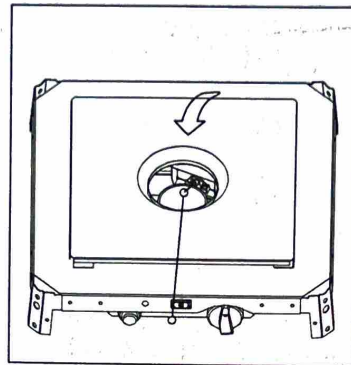

Figure 4
- * -As you are depressing the control knob, place long stem lighter(NN) through the glass tube to light the pilot (Figure 4).